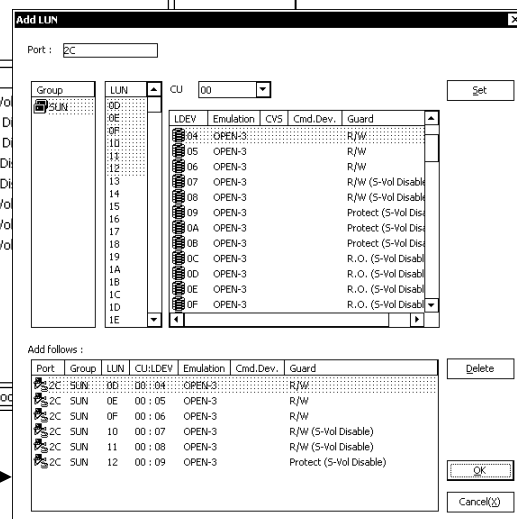

Figure 5.1.2 Add LUN Window
- ④ Since the LUN Registration window (Figure 5.1.2) is displayed, select (CL) the LUN and CU:LDEV and select (CL) the [SET] button. The LUN that has been set is displayed in the “Add follows list.”